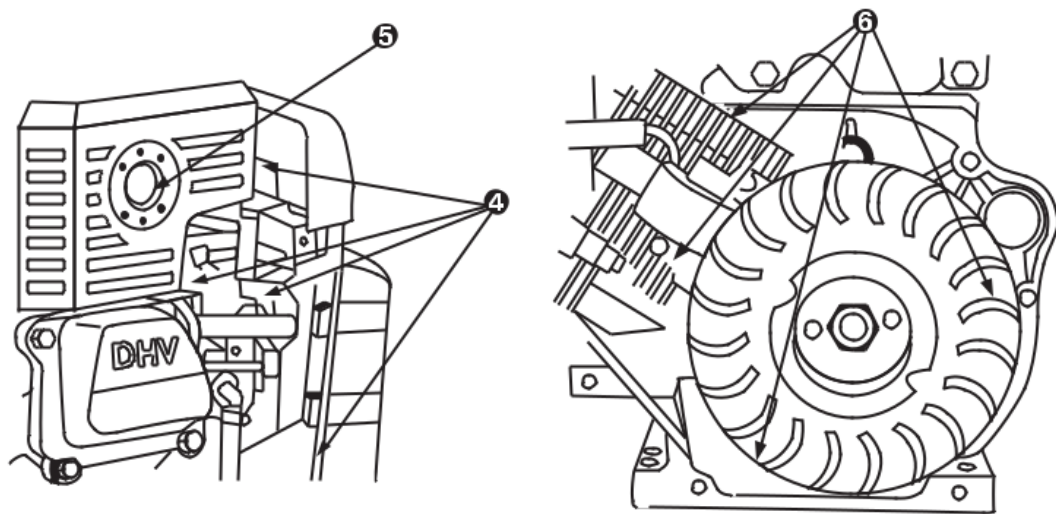

Figure-15
- * Every 100 hours or every season, remove the starter guard and clean the area shown in **Figure-15**.